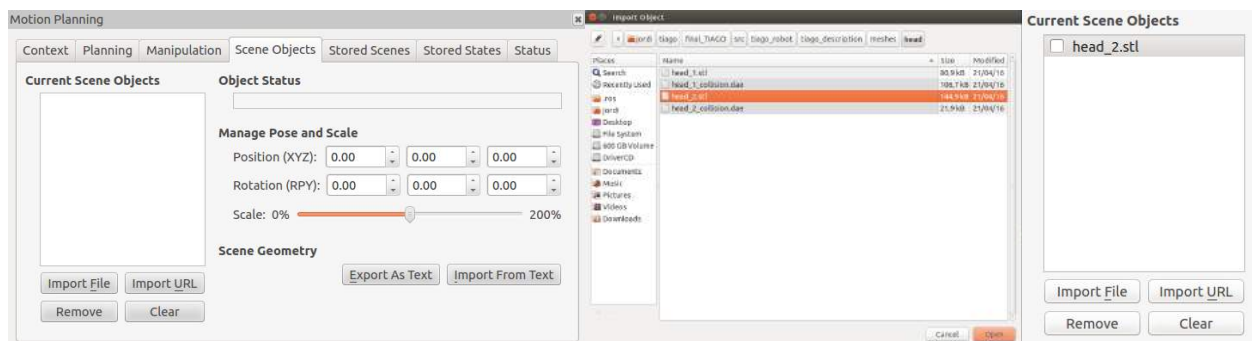

Figure 93: Scene objects tab (left), select the mesh (center), and the object listed in scene objects (right)
1. To add such an object to the planning environment, navigate to the “*Scene objects*” tab in the planning environment window, then click “*Import file*” and navigate to the `tiago_description` package, where the mesh of the head can be found in the `mesheshead` folder as shown in figure 93.